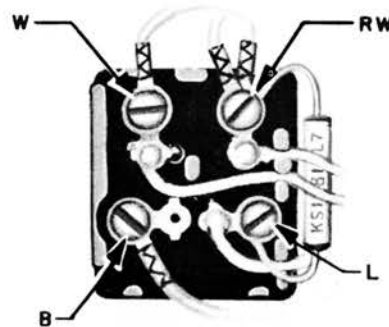

Fig. 7 — 500A, B or 501A, B Telephone Set, KS-13814, List 7 Capacitor Installed
4.04 The KS-13814, List 7 capacitor is installed in the 500A, B and 501A, B telephone sets as shown in Fig. 7. It is connected across the L and RW terminals of the 311A equalizers. Place the capacitor against the equalizer as shown. Cover the exposed portions of the leads with tubular insulation.